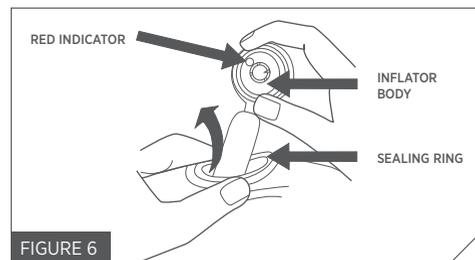
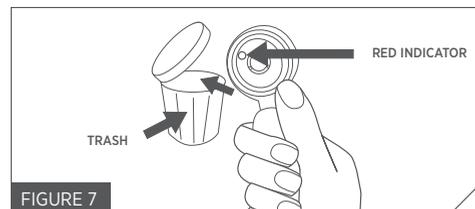

FIGURE 6
FIGURE 7
5. Squeeze the sealing ring to elongate and remove the black inflator body and cylinder from inside the bladder (Fig. 6). Discard (Fig. 7).